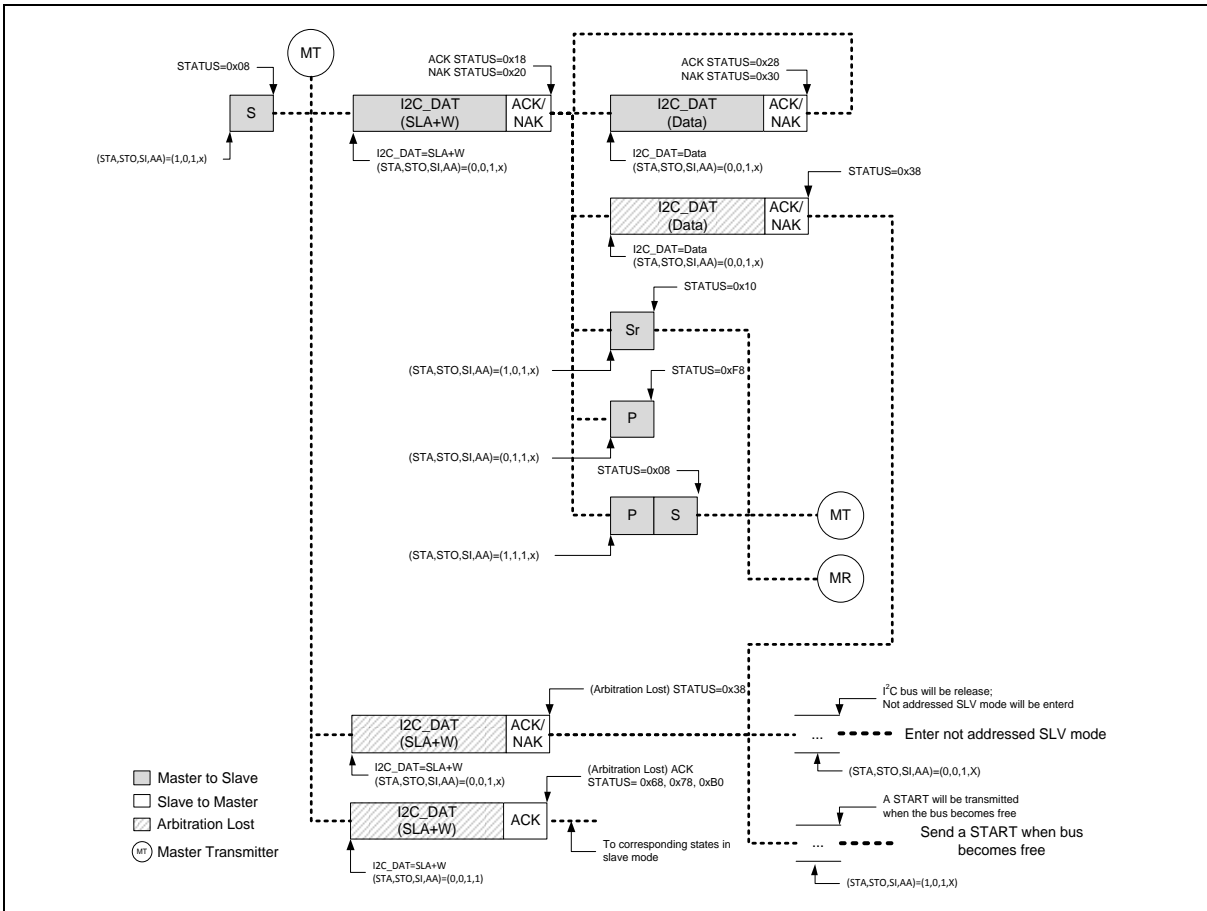
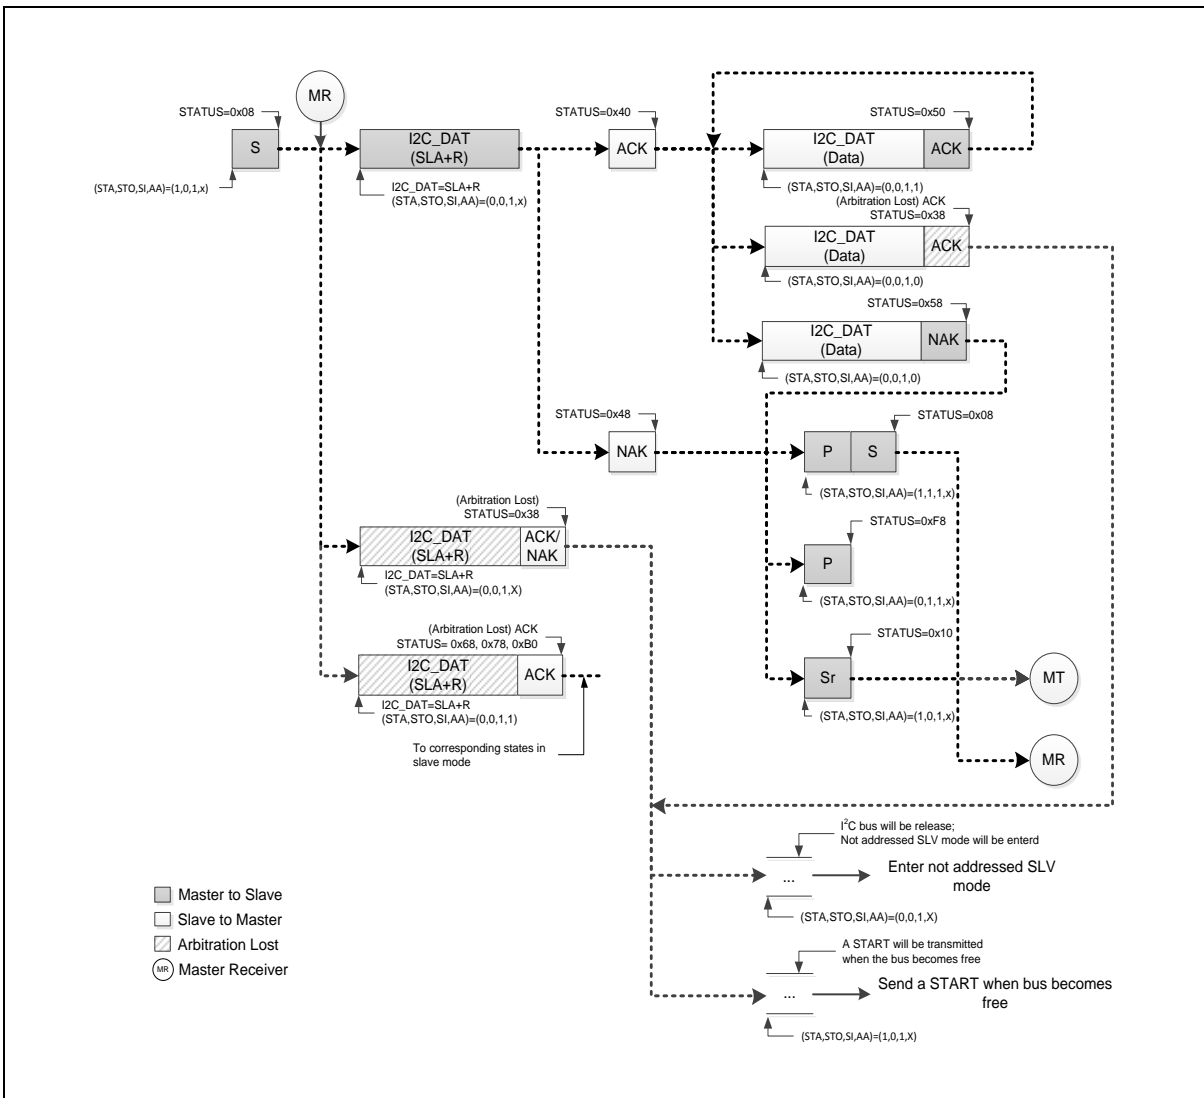

Figure 6.16-10 Master Transmitter Mode Control Flow
Figure 6.16-11 Master Receiver Mode Control Flow
In Figure 6.16-10 and Figure 6.16-11, all possible protocols for I2C master are shown. User needs to follow proper path of the flow to implement required I2C protocol.
(Figure 6.16-10) or Master receiver (MR) mode (Figure 6.16-11) after START signal has been sent successfully and new status code would be 0x08. Followed by START signal, user can send slave address, read/write bit, data and Repeat START, STOP to perform I2C protocol.